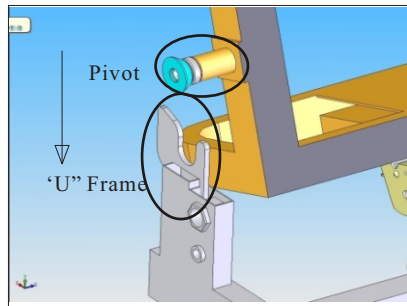

Fig.2
- * Align both pivots correctly so they rest perfectly onto the "U" pivot frame (Fig.2)
- * Figure 2: Close-up view of pivot and "U" pivot frame.